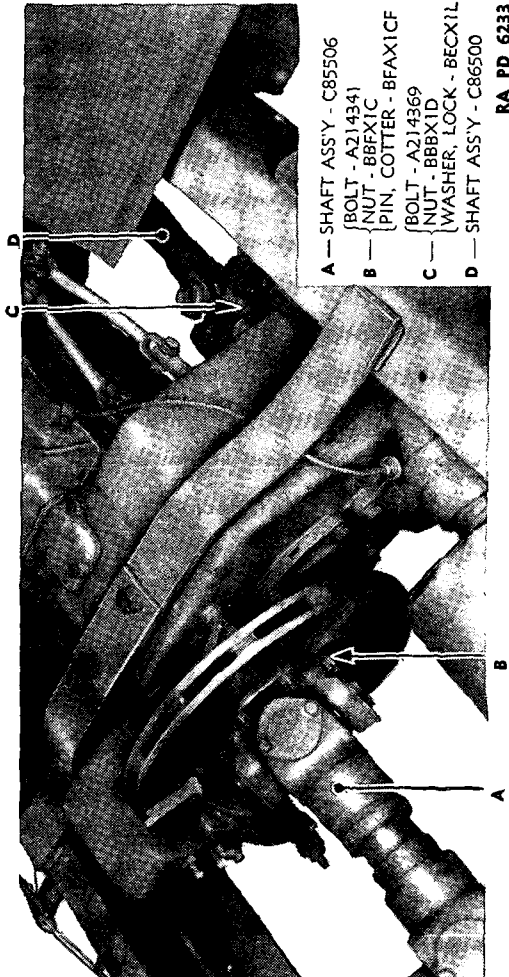

FIGURE 70.—Propeller shafts, installed.
(3) Replace with new seals.
27. Removal of assembly (fig. 70).—*a. Front axle propeller shaft.*—Tools: ⅝-inch open end wrench, ⅝-inch socket wrench. Re-